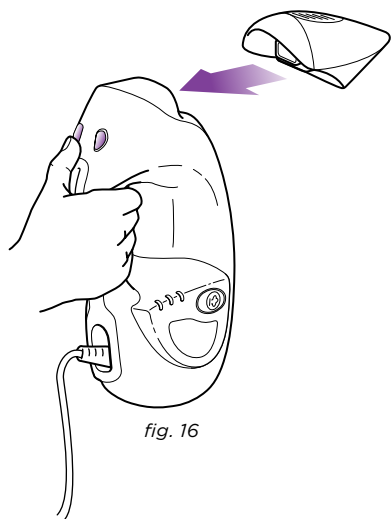

fig. 16
- To activate steam, first attach the Direct Steam Nozzle to the **Handheld Steamer** by snapping the Direct Steam Nozzle into the main nozzle. (fig. 16)